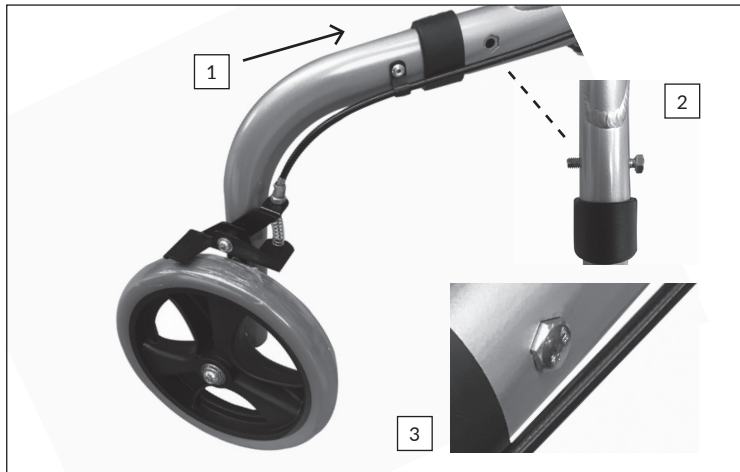

Figure 4:
1. Refer to Figure 2 and Figure 4. Slide the RHS wheel frame tube into the RHS main frame tube.